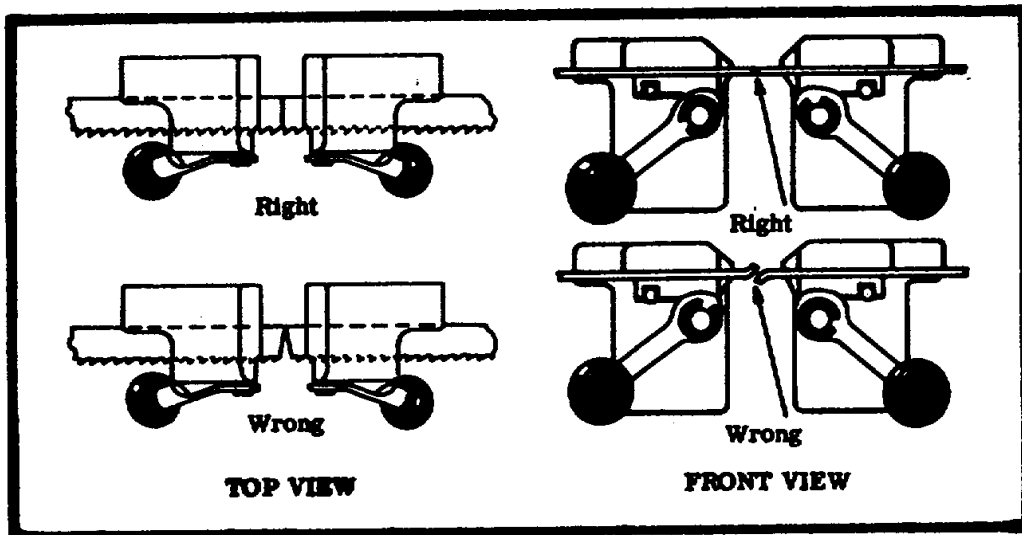

Figure 6 - How to clamp Band in Jaws
(2) Insert the saw band between the jaws with the back of the band against the back of the jaws as shown in Figure 6. This lines up the band so that it will be straight after welding.
The ends of the band should meet at the center of the welding gap without any overlap either in thickness or across the width as shown in Figure 6. If the ends are clamped in an offset manner an overlapping weld will result which will have to be ground too much, making the band weak at the weld. If the contact across the width is not complete when the ends are clamped in the jaws, remove one end and recut it. An incorrect joint will cause an incomplete weld.